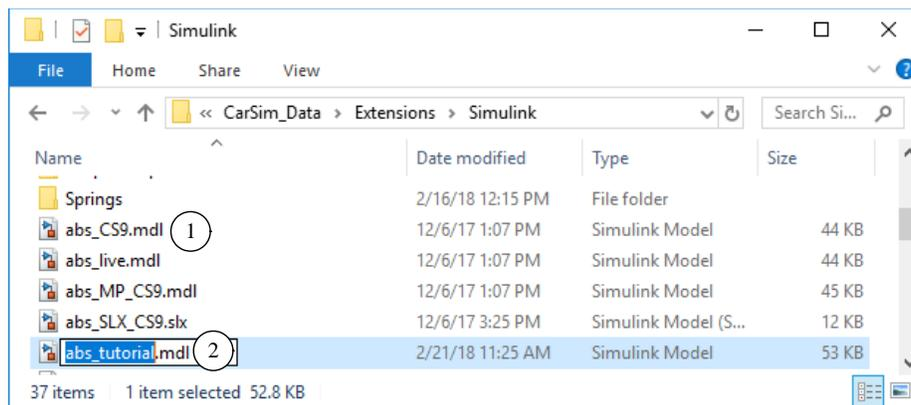

Figure 8. Duplicate the `ABS` model file and give the copy a new name.
4. One of the folders in `Extensions` is named `Simulink`. Double click to open the `Simulink` folder (Figure 8). The `Simulink` folder contains many `Simulink` files, along with some folders with supporting `MATLAB` files.